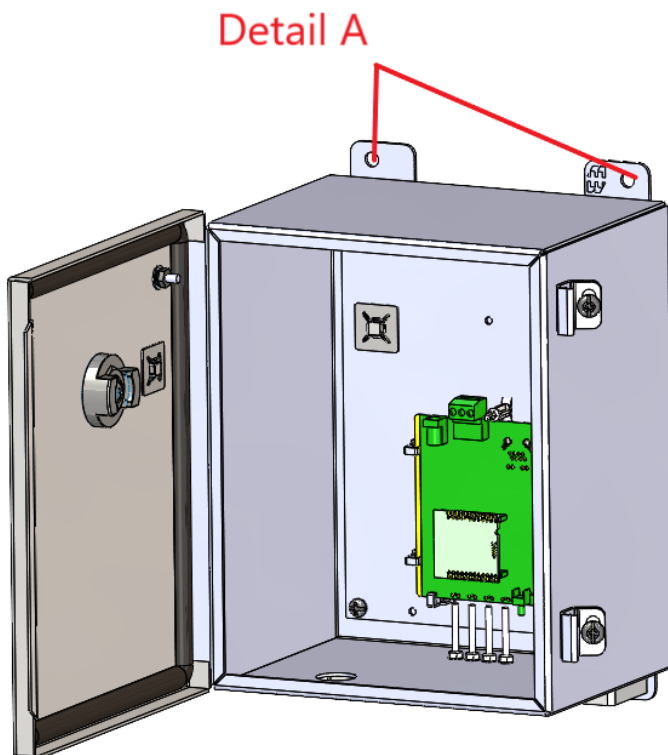

Figure 5 Equipotential (EP) Bonding
- Refer to Fig. 5 Detail "A" for allowable EP connections points